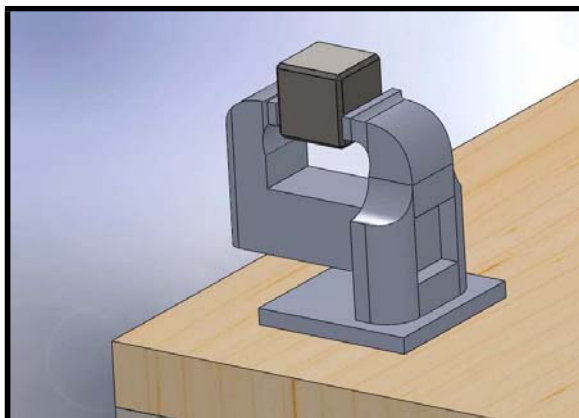

Figure 13: Clamp the piece into the
- A. Clamp the steel cube into the **Bench Vice** as shown in Figure 13.